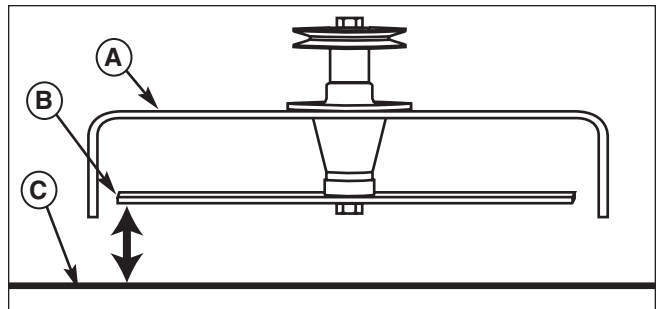

Figure 38. Measure Blade Tips to Ground
7. Measure the distance from the ground to the front tip of the center blade, and from the ground to rear tips of left-hand and right-hand blades (Figures 38 & 40). The front tip of the center blade should be 1/4" (6mm) higher than rear tips of left-hand and right-hand blades. If not, proceed with steps 8 - 11.